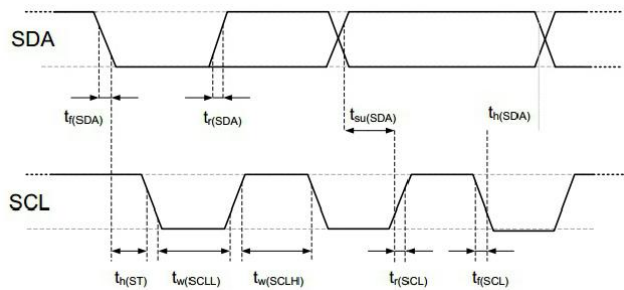

Figure 9 Timing diagram of digital input/output
The SDA pin is used for data input and output of the sensor. When sending a command to the sensor, SDA is valid on the rising edge of the serial clock (SCL), and when SCL is high, SDA must remain stable. After the falling edge of SCL, the SDA value can be changed. To ensure communication safety, the effective time of SDA should be extended by TSU and THO before the rising edge and after the falling edge of SCL refer to Figure 9. When reading data from the sensor, SDA is valid (TV) after SCL goes low, and is maintained until the next falling edge of SCL.
Electrical characteristics, such as power consumption, input and output high and low voltages, etc., depend on the power supply voltage. In order to make the sensor communication smooth, it is very important to ensure that the signal design is strictly limited to the range given in Table 7, 8 and Figure 9).